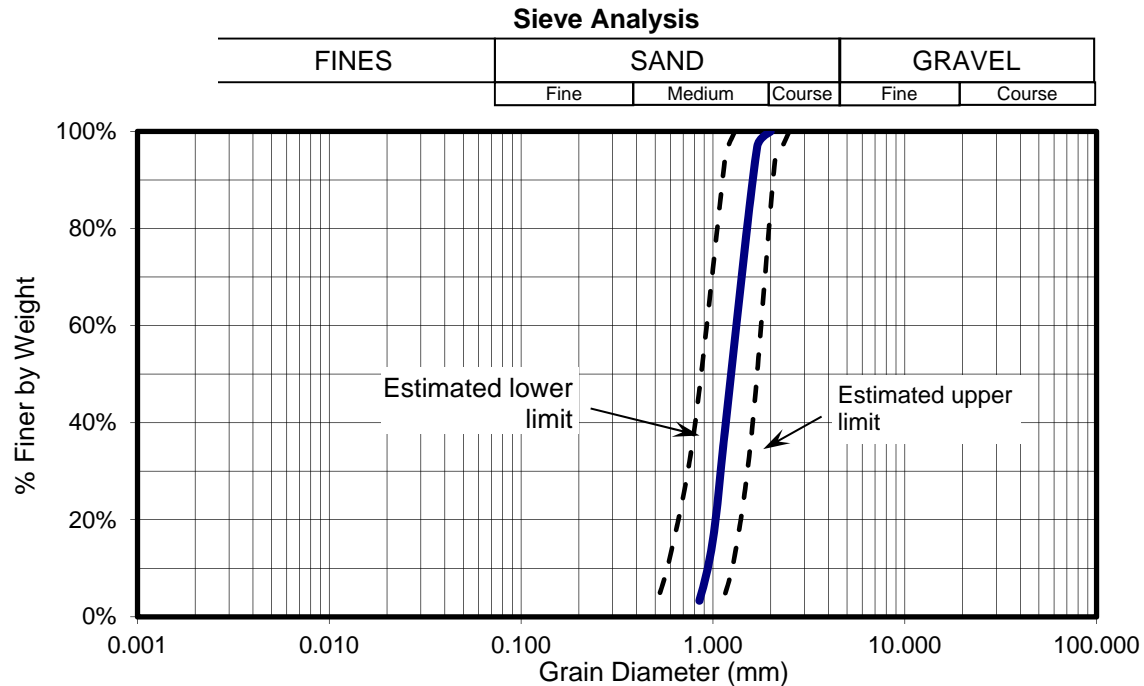

Figure 3: Estimated grain size distribution of backfill sand
- Backfill Material-** The backfill material will be sand provided by competition organizers on site. The sand will be a clean, dry, rounded to subrounded sand with grain size as specified in Table 1 and Figure 3. The backfill material must be used as-is: no water, additives, or chemical stabilizers may be placed in the backfill material.
Competition organizers will make reasonable efforts to ensure the competition backfill materials meet the specifications in Table 1 and Figure 3. Teams will be allowed to examine a sample of the competition backfill at the captains’ meeting. No backfill samples may be removed from the meeting room. Teams may modify their wall design at this time if they desire. See paragraph 11 below.
- Clean sand with grain size distribution as specified in Table 1 and Figure 3